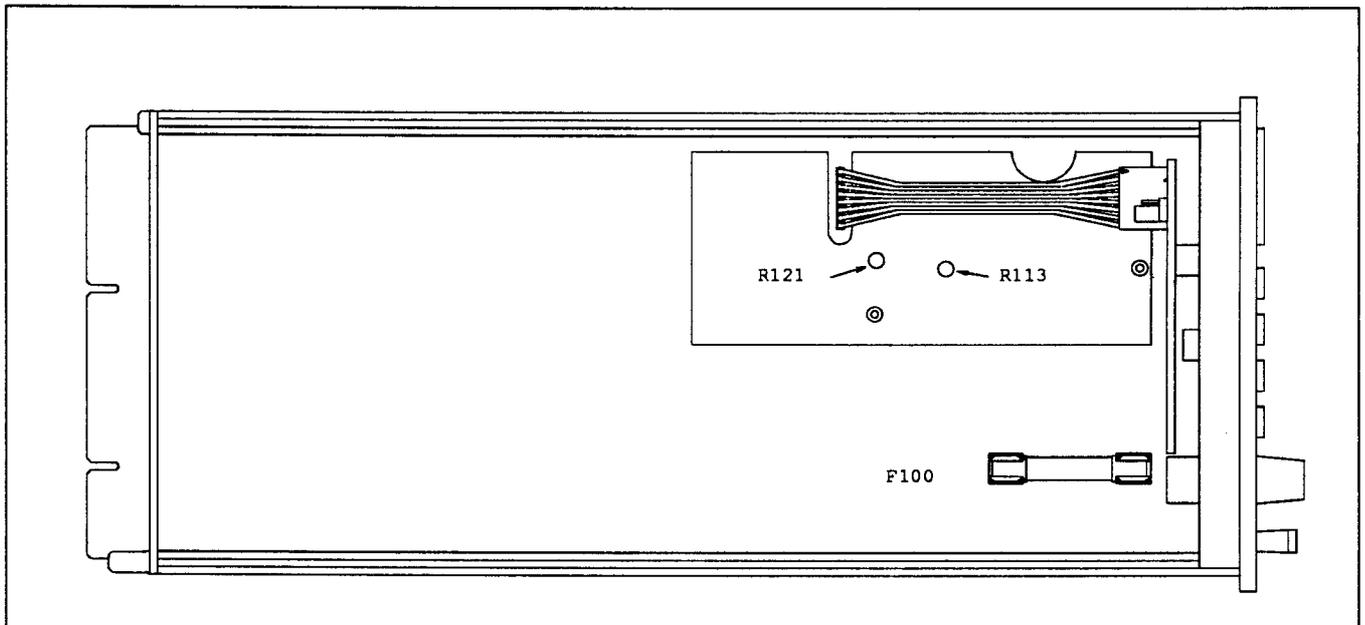

Fig. 3-1. Sideview DM 5110 / DM 511
- e. Switch the frequency of the calibrator signal between 300 Hz and 10 kHz, and adjust R113 (figure 3-1), until the reading is the same for both frequencies (within a tolerance of +/- 3 counts).